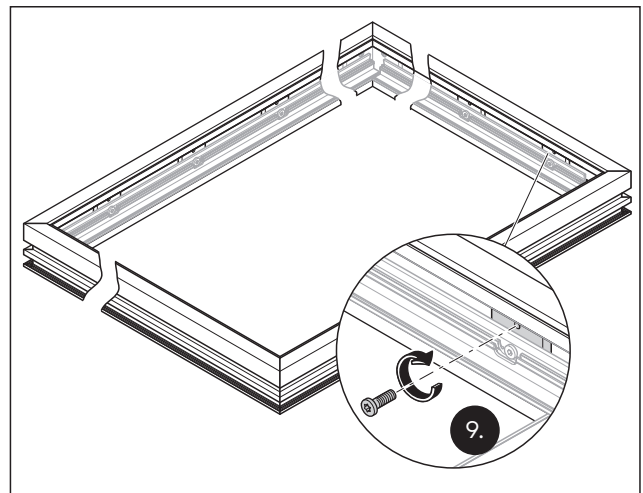

Fig. 19 Fix the spacers onto the acoustic element frame
9. Fix the spacers with Torx screws M5x18 mm on the acoustic element frame (Fig. 19).